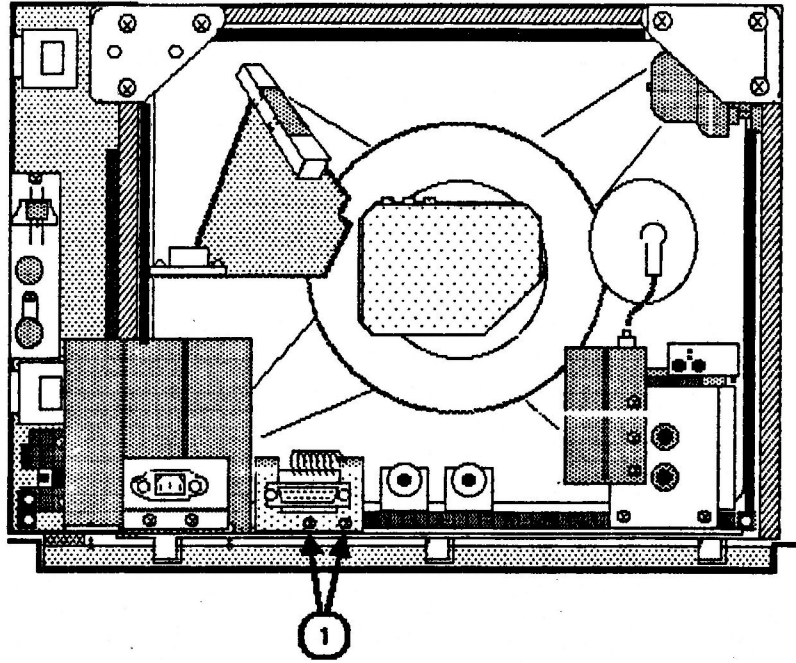

FIGURE 5
4. Remove the two Phillips screws (Figure 5, #1) which secure the metal bracket of the DB-15 connector to the chassis.